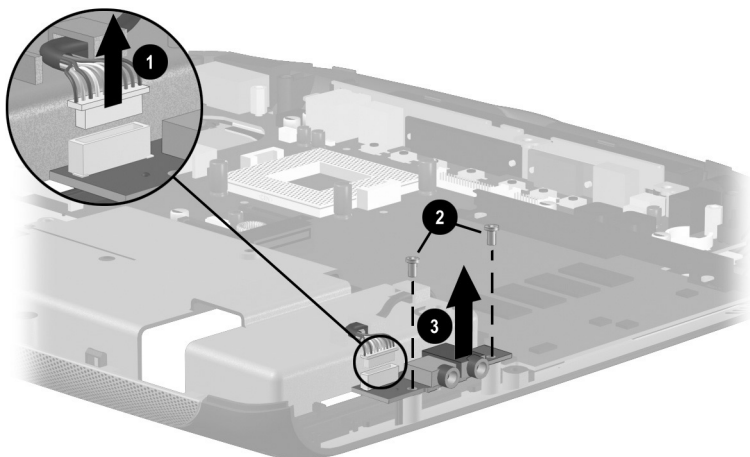

Figure 5-44. Removing the Audio Board
2. Disconnect the audio cable ❶ from the audio board (Figure 5-44).
3. Remove the two silver TM2.0 × 5.0 screws ❷ that secure the audio board to the base enclosure.
4. Remove the audio board ❸.